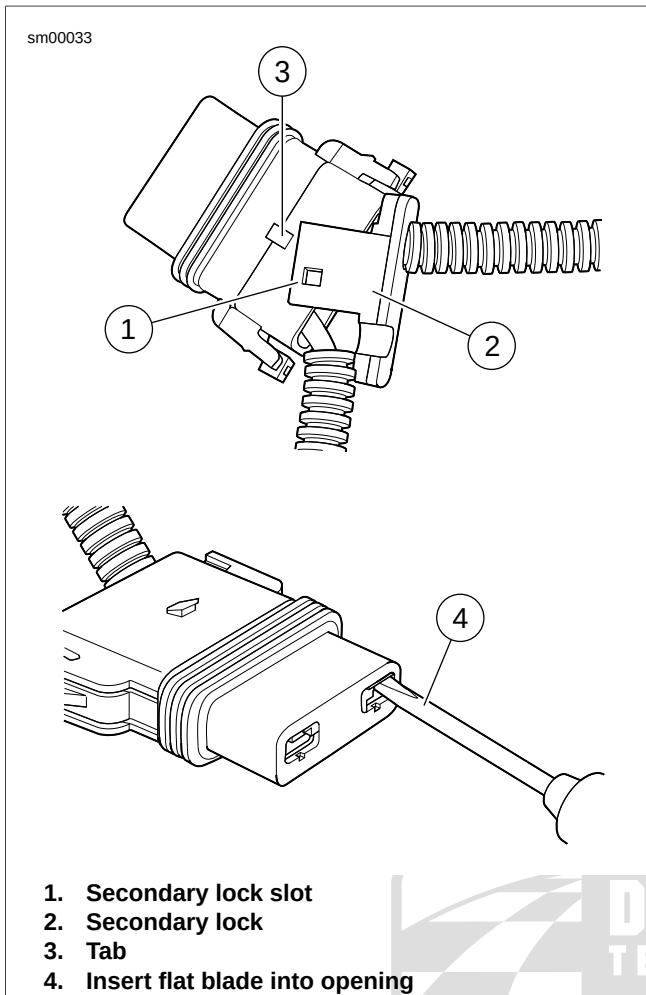

Figure A-31. Delphi Maxi-Fuse Housing: Remove Socket Terminals
1. See Figure A-31. Gently pull socket housing to disengage slots (1) on secondary lock (2) from tabs (3) on socket housing. Free secondary lock from cables and set aside.
2. Take note of the opening on one side of the socket terminal. Gently insert flat blade of pick (Snap-On TT600-5) or small screwdriver into opening (4) until it stops. Pivot the pick toward the terminal body and hold in position.